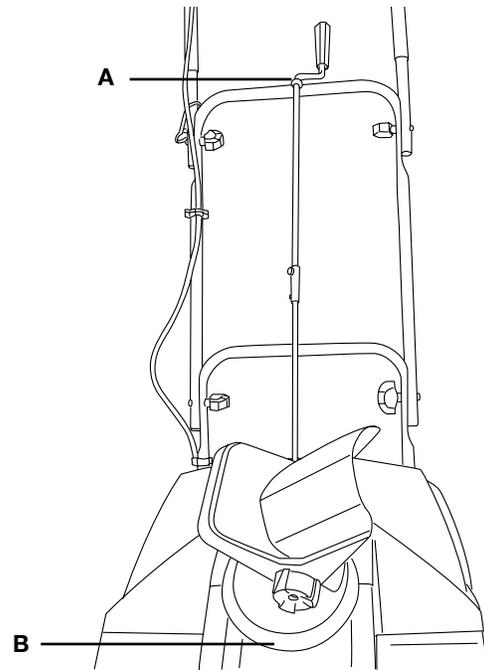
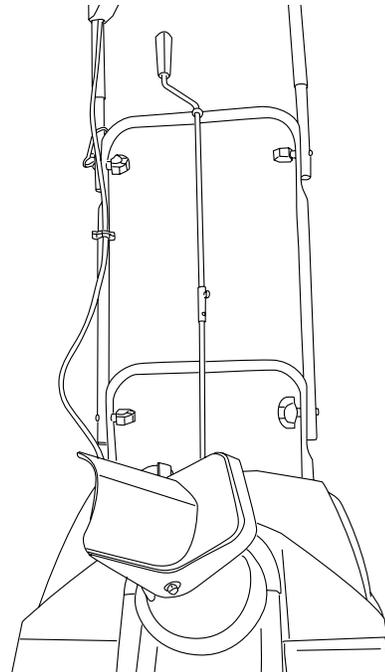

Figure 18
Figure 19
1. The discharge chute can be adjusted 180 degrees by rotating the chute crank. Rotate the chute control crank clockwise to move the discharge chute to the left (Fig.18) and counterclockwise to move the chute to the right (Fig.19).